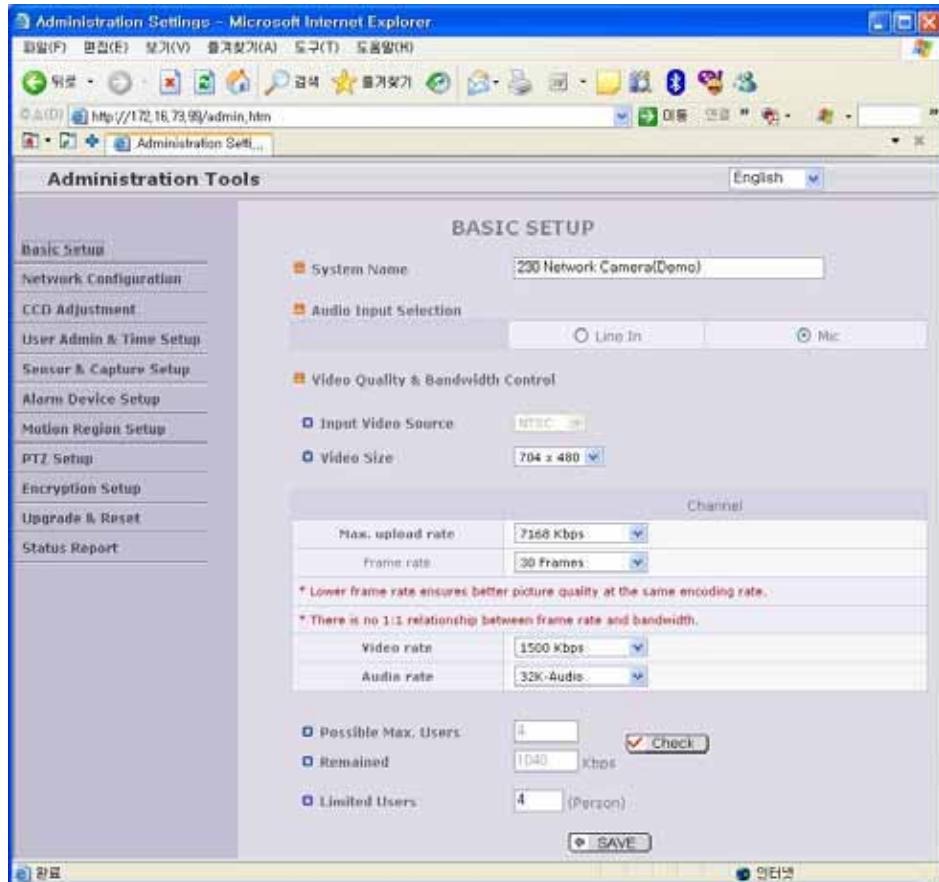

**Figure 5-2. Log On Screen**
**3. Input User Name and Password in the display screen shown in Figure 5-2.**